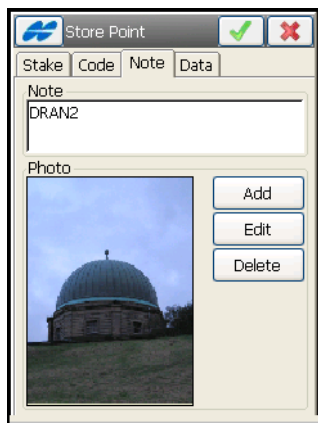

Figure 13-17. Store Point Note
**Note tab** on the *Store Point* screen adds text and photo notes to the stakeout point (see Figure 13-17 on page 13-16).